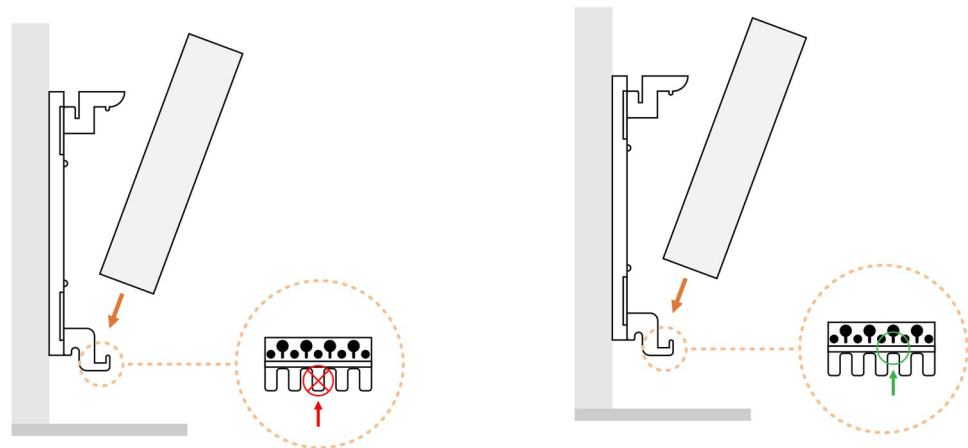

Figure 7 | Slotting the radiator in place. Left: incorrect hook location. Right: correct hook
11. Slot the bottom of the radiator onto the bottom hooks so that the bottom hook fits into the large slotted hole on the front of the radiator (**Figure 7**).